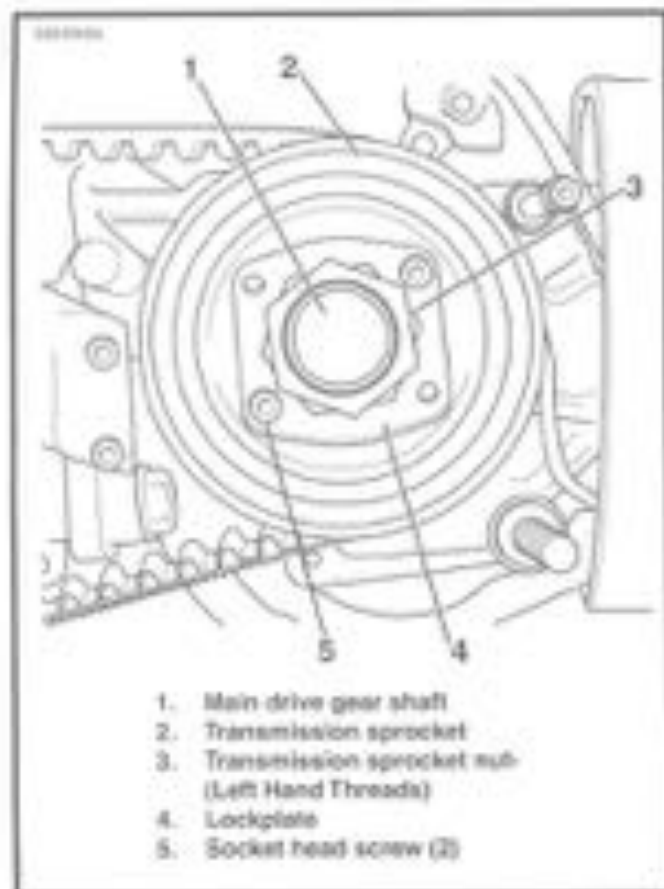

Figure 6-53. Transmission Sprocket
- See Figure 6-53. Install transmission sprocket (2) with secondary drive belt onto main drive gear shaft (1).
- Place transmission in neutral. Apply a few drops of **LOCTITE THREADLOCKER 242 (red)** to the **left-hand threads** of transmission sprocket nut (3). Position nut with washer-face side facing transmission sprocket
- See Figure 6-53. Install lockplate (4) over nut (3) so that two of lockplate's four drilled holes (diagonally opposite) align with sprocket's (2) two tapped holes.